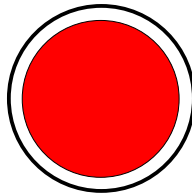

Figure 47. Contactor Closed Lamp
17. Verify that the contactor **CLOSED** lamp (Figure 47) is lit (**RED**).
3. Once in **AUTO** mode, the controller monitors the auto start contacts awaiting a closure. A closed contact signal will start the engine, automatically closing the contactor. Reference Figure 47.